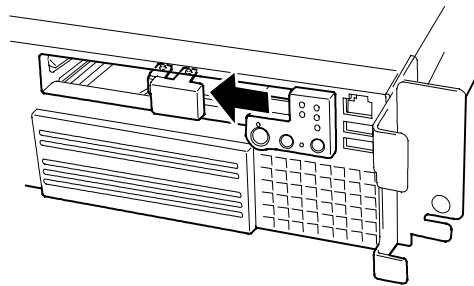

Figure 4-63. Removing the Spacer
4. Remove the spacer. See Figure 4-63.